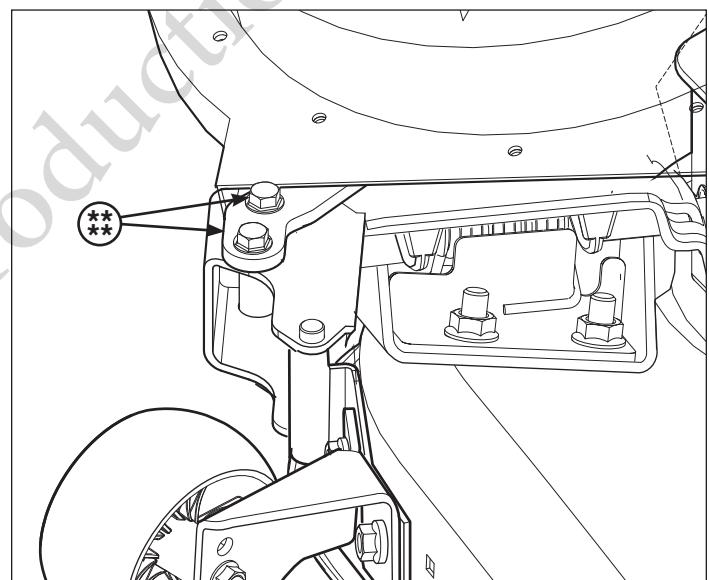

Figure 24
5. Tighten both bolts and nuts (****) of turbo assembly as shown in Figure 24 .